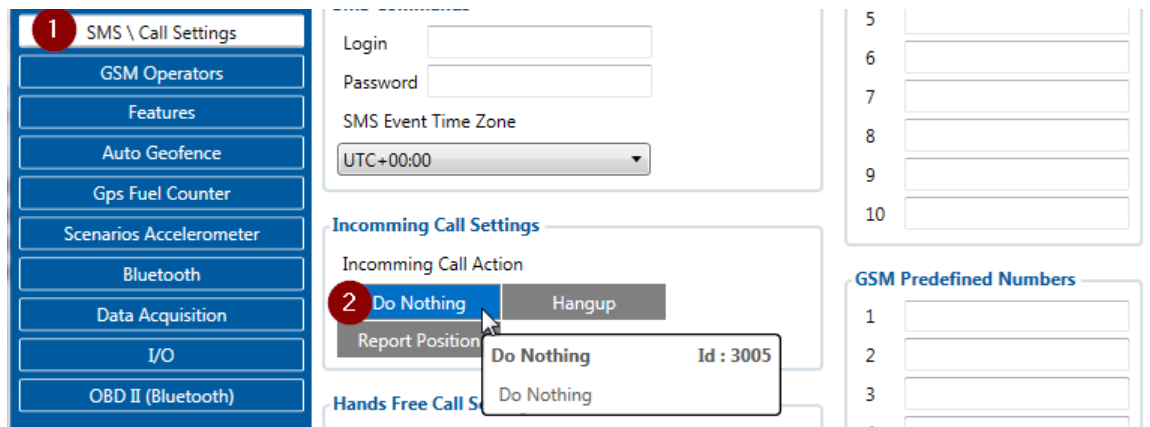

Figure 3. Incoming Call Action settings.
9. Go to “**SMS \ Call Settings**” in left menu and set “**Incomming Call Action**” to “**Do Nothing**” visible at **Figure 3**.